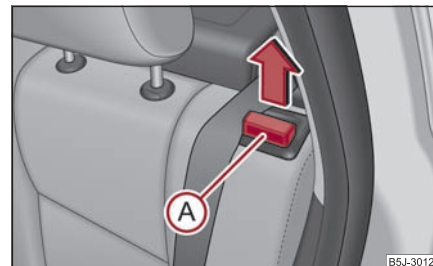

Fig. 69 Unlock the seat backrest
- Unlock the seat backrest backrest by pulling the securing knob A and fold it forwards ⇒ fig. 69.
- Make sure that the red surface of the securing knob (A) is not visible ⇒ fig. 69.